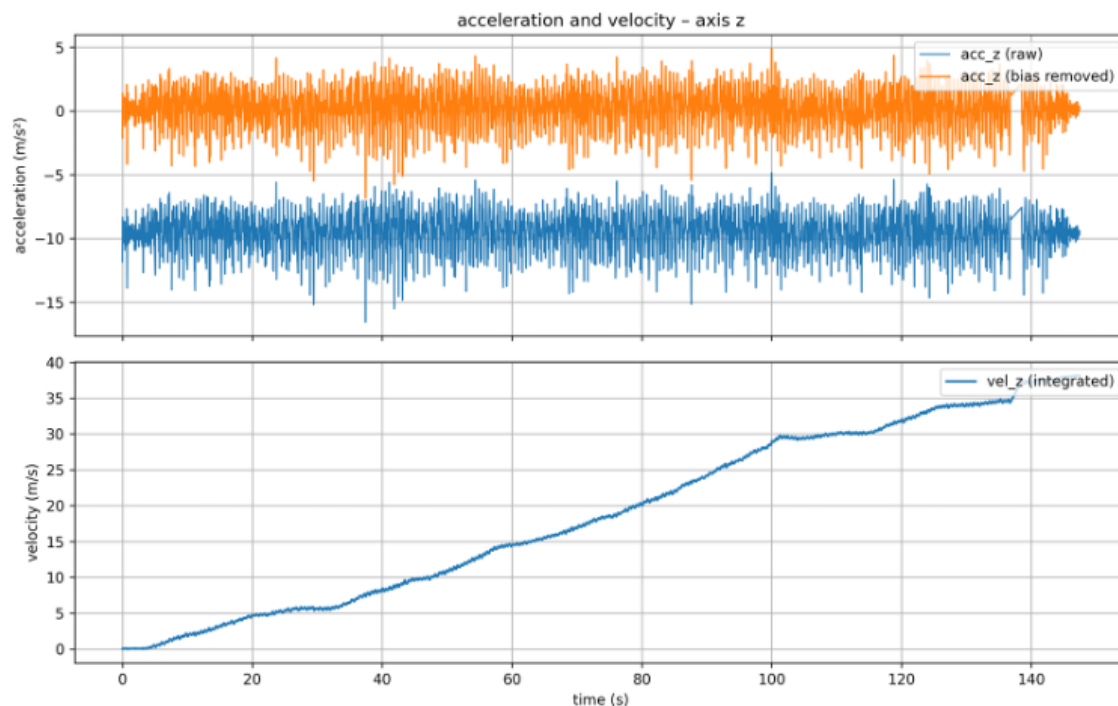

Figure 7: Acceleration and velocity in Z-axis
**Task:** Plot acceleration in Z and velocity in Z (integrate once) vs. time as two subplots (Fig. 7).